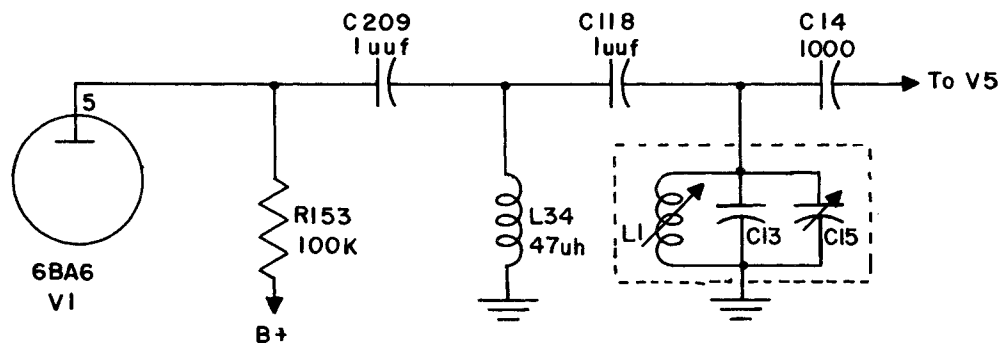

Figure 3. Partial Schematic V1, After Modification
19. Check circuit for correct wiring as shown in Figure 3.